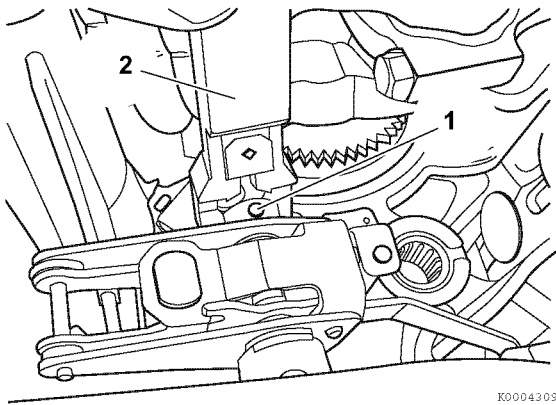

Figure 6-85
3. Remove the tapered pin (1, **Figure 6-85**) that fastens the governor lever to the throttle shaft using the special throttle shaft pin removal tool (2, **Figure 6-85**). See *Special Service Tools* on page 6-19 for the appropriate tool number.
4. Position the pin removal tool on the throttle shaft as shown (**Figure 6-85**).